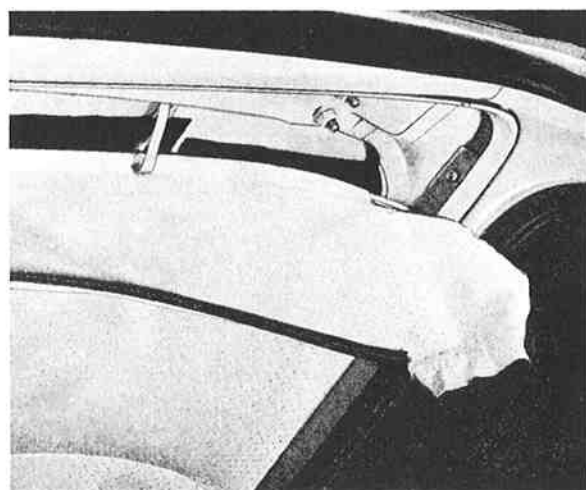

Fig. 42. Headlining fabric removed to expose upper tailgate hinge nuts
3. Carefully pull down the headlining at the rear edge beginning in the middle and continuing outwards towards the corners. The teazel strip at the corners is bent out slightly with a putty knife. The fabric is then carefully lifted off the projection of the teazel strip with the help of the putty knife. Remove the headlining fabric up to the rear stretcher as shown in Fig. 42.